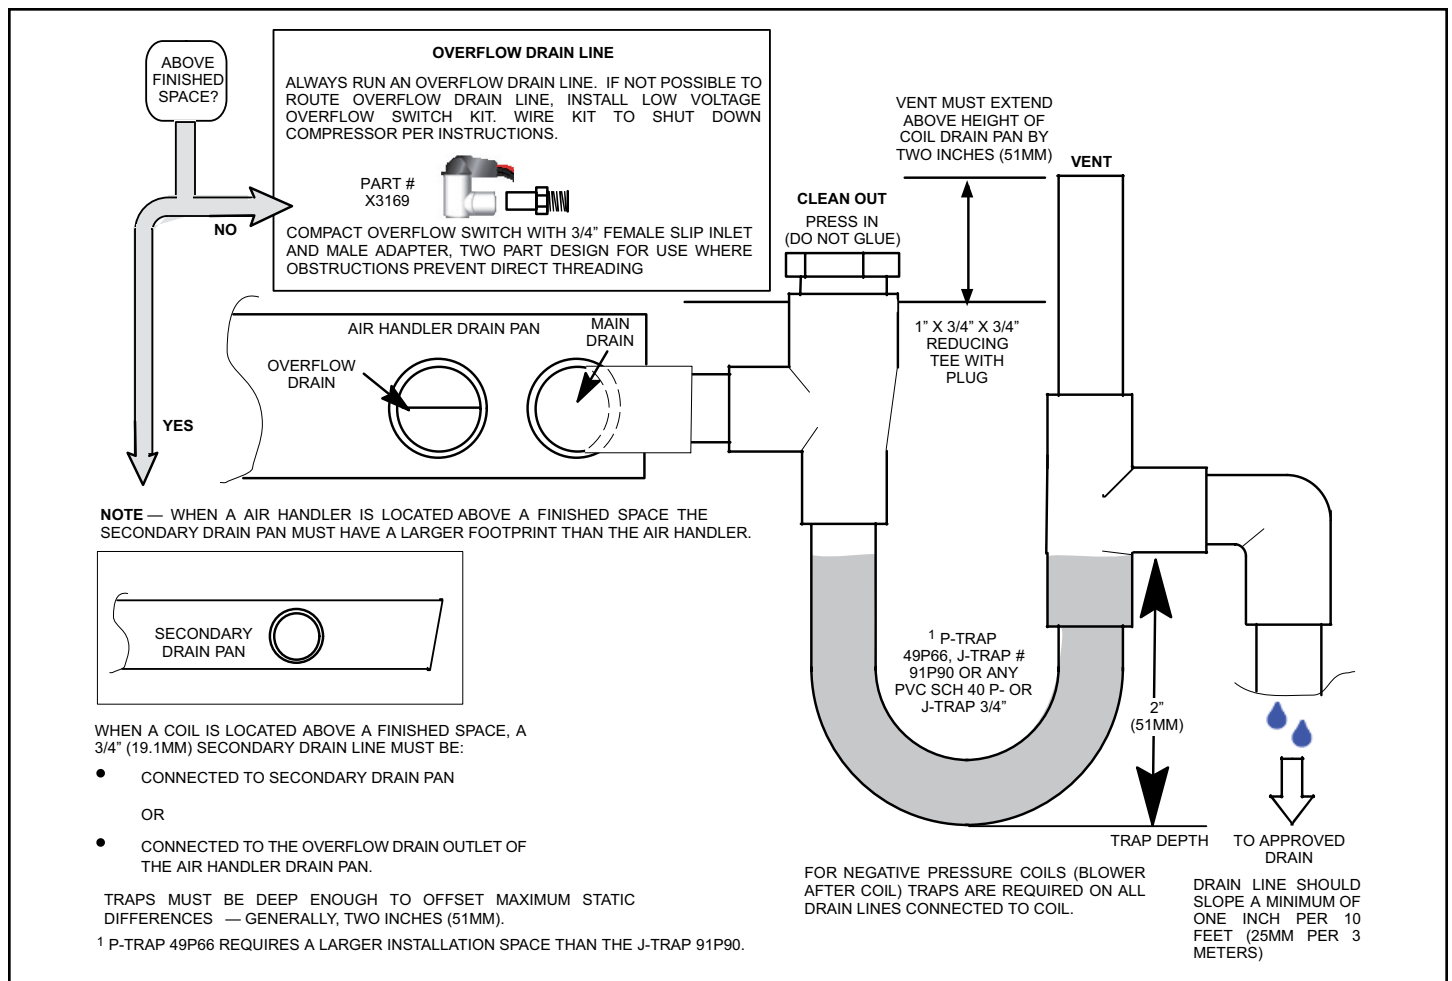

Figure 8. Typical Main and Overflow Drain
- Install a 2" trap in the main (primary) drain lines as close to the unit as practical (see Figure 8). Make sure the top of the trap is below the connection to the drain pan to allow complete drainage of the pan.
NOTE: Horizontal runs must have an anti-siphon air vent (standpipe) installed ahead of the horizontal run. See Figure 8. An extremely long horizontal run may require an oversized drain line to eliminate air traps.